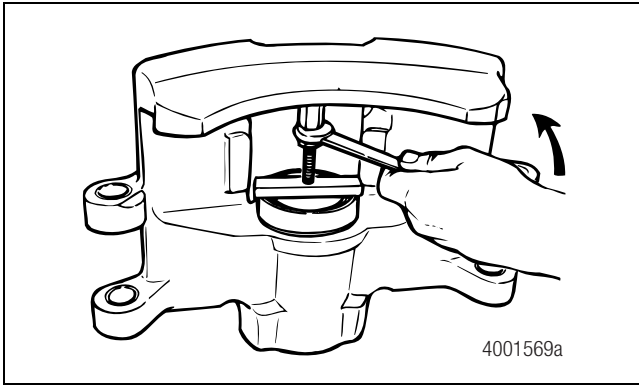

Figure 5.15
4. Position the boot and tool between the caliper legs and directly over the bore. Carefully turn the nut in the direction shown in Figure 5.15. Force the nut against the spacer or the caliper leg until the boot is installed in the bore.